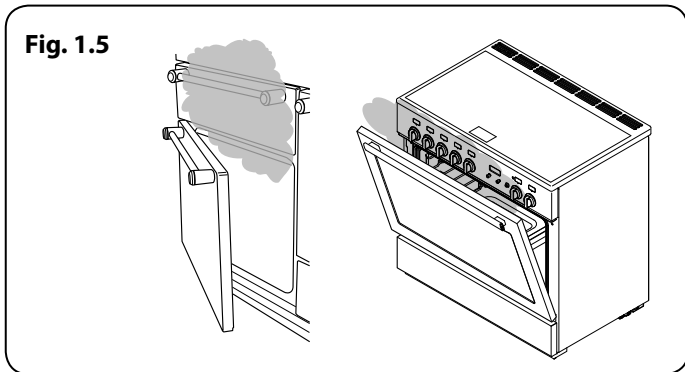

Fig. 1.5
- Cooking high moisture content foods can create a 'steam burst' when the oven door is opened (**Fig. 1.5**). When opening the oven, stand well back and allow any steam to disperse.